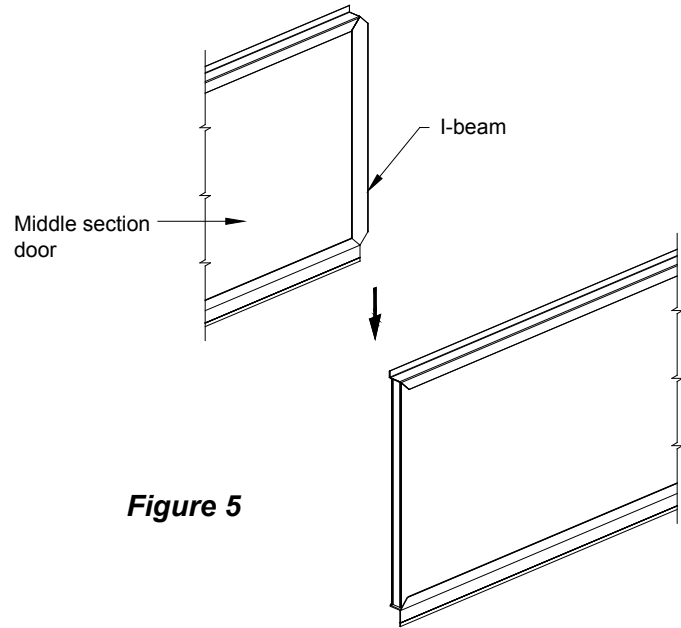

Figure 5
14) With the installed door(s) in the open position, slide doors together from the top, as shown in **Figure 5**. The I-Beam can be spread apart to fit around the other door. **IMPORTANT** - It is necessary to position doors in the open position while sliding them together, and in the closed position for attachment to the frame. Placing the doors in the open position allows for viewing on both sides of the door to verify I-Beam enclosed mating door. Close the doors and fasten in place with screws every 3½" *not too tight*, along indented line in rigid hinge piece. **Important** - Placing the door in its closed position for attachment it to the frame will ensure proper seating on the level 2x2 and with the other doors. Attach lift line to lift bracket, using the Azuma nut, to hold the door in the open position.